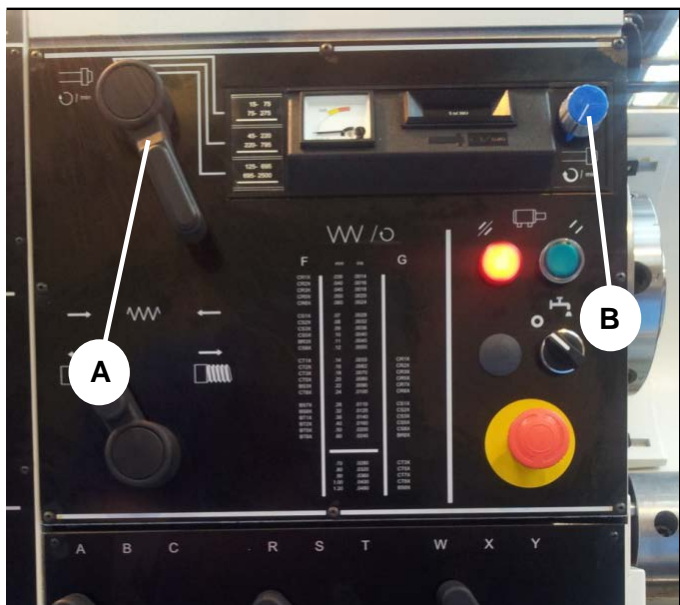

fig. 6
The correct speed range is first selected by means of lever A (Fig. 6) into one of three positions:-
Ensure that the third rod lever (C) is in the NEUTRAL (mid) position (Fig. 7) and press the drive enable button. Green light illuminates. Ensure Speed Control Knob (B - Fig. 6) is in low (fully anticlockwise).